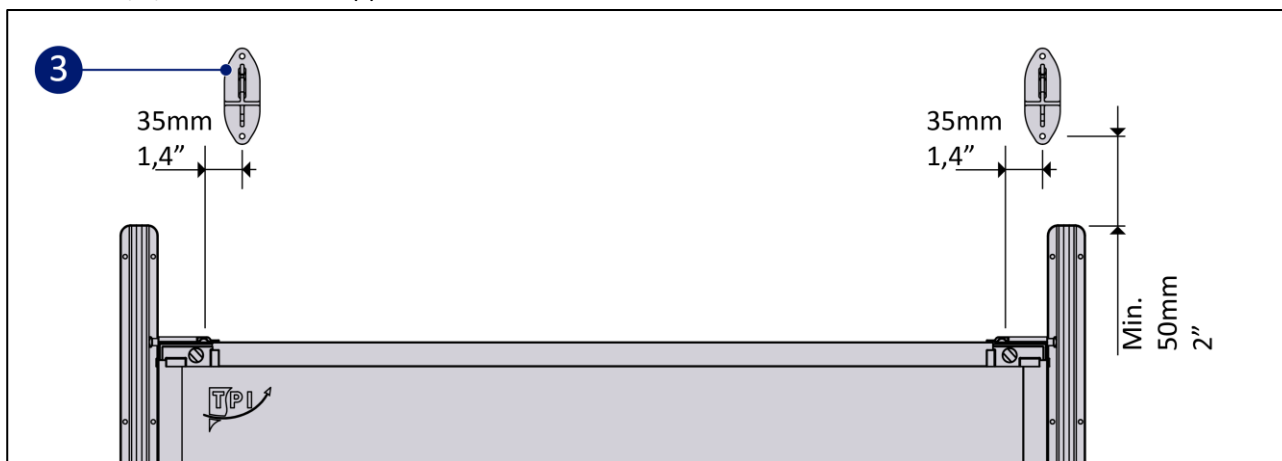

Figure 4-6: Placement of the cable supports.
1. Mount the main cable supports (TPI-519) (Figure 4-6, pos. 3) on the wall: the brackets have an offset of 35mm/1,4" on the same (!) side.